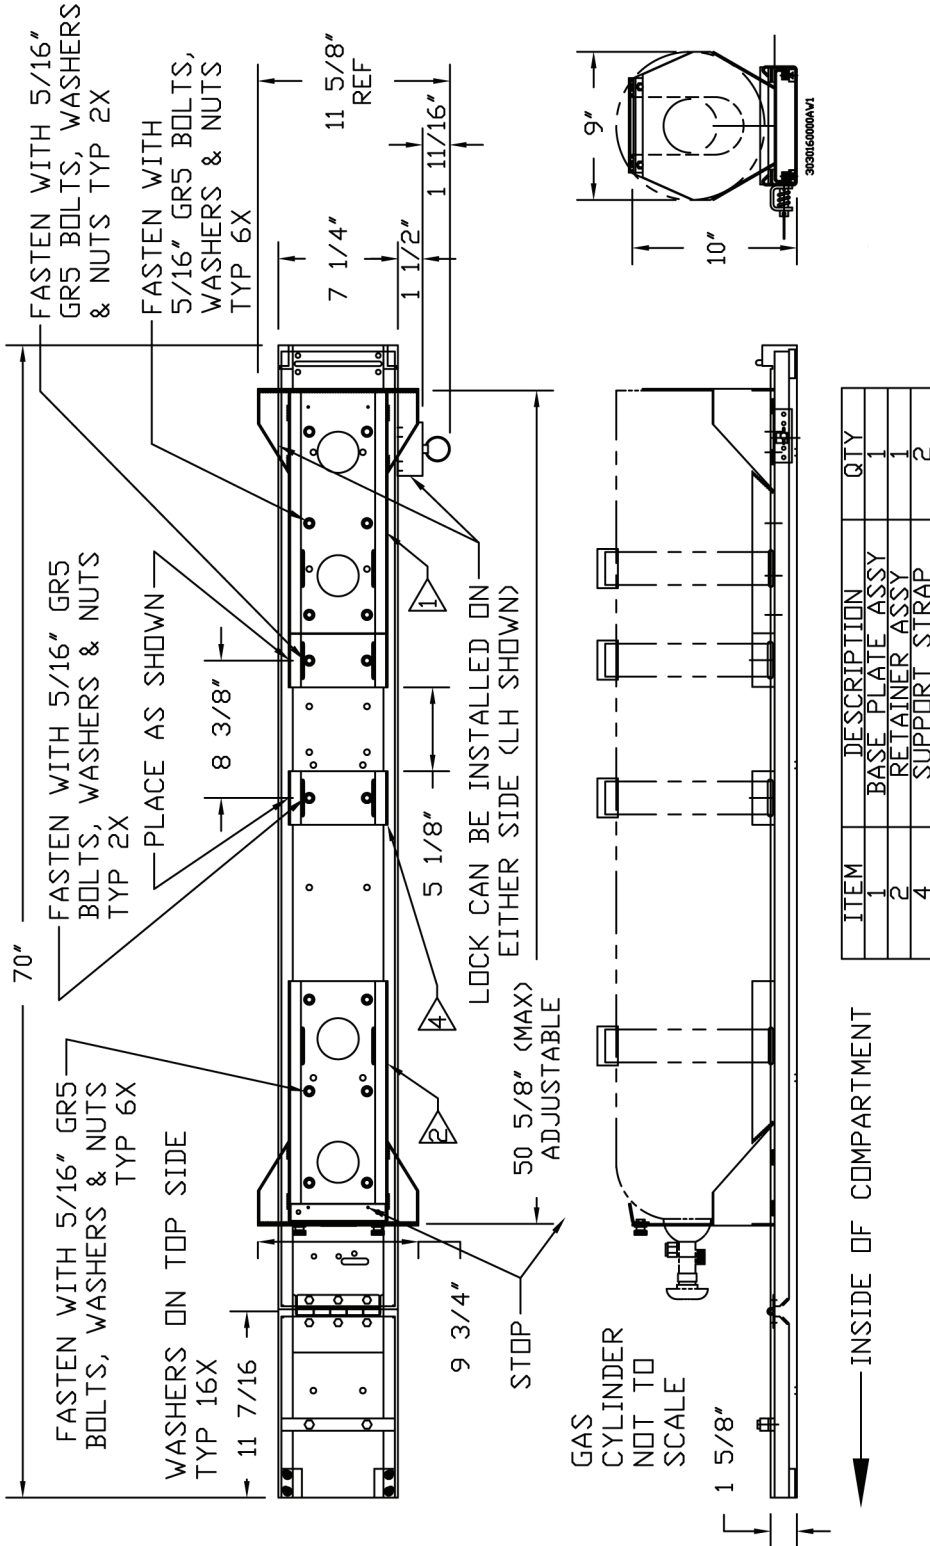
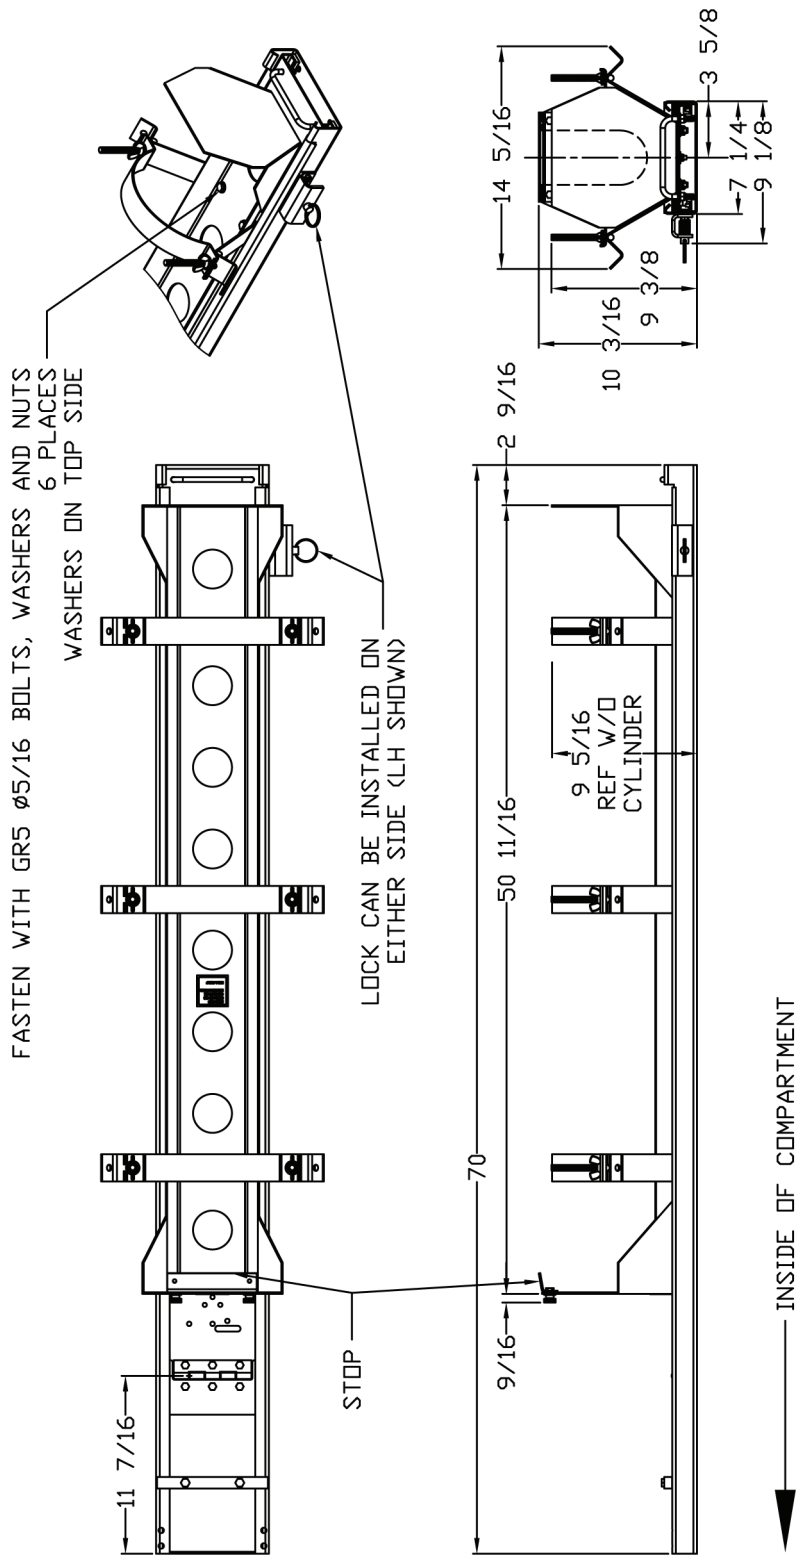

Figure 3
Figure 4
1. Roughly position the QR-SOFD-2 in the apparatus. See Figure 3 (with QR-MV) or Figure 4 (with QR-GH) for overall height dimensions. Note that these dimensions do not include the Gas Cylinder.
Note: See Figure 3 for the following steps and refer to the QR-MV manual.
1. The positions of the brackets in Figure 3 are spaced for G and H Gas Cylinders.
2. Mount the four brackets as shown using 16x GR5 5/16-18 Hex Head Screws (26), washers (44) and Nuts (20).
1. Position and fasten the QR-MV’s Base Plate Assembly to the QR-SOFD-2 Main Slider (2) using 6x GR5 5/16-18 Hex Head Screws (26), washers (44) and Nuts (20).
5. Fasten the Retainer Assembly using 6x GR5 5/16-18 Hex Head Screws (26), washers (44) and Nuts (20). Drill Ø11/32 holes if necessary to make sure that the Retainer Assembly has 6 fasteners securing it to the Main Slider (2).
6. See Figure 3 for the locations of the two Support Straps.
7. Fasten a Support Strap using 2x GR5 5/16-18 Hex Head Screws (26), washers (44) and Nuts (20). Repeat for the other Support Strap.
Note: See Figure 4 for the following steps and refer to the QR-GH manual.